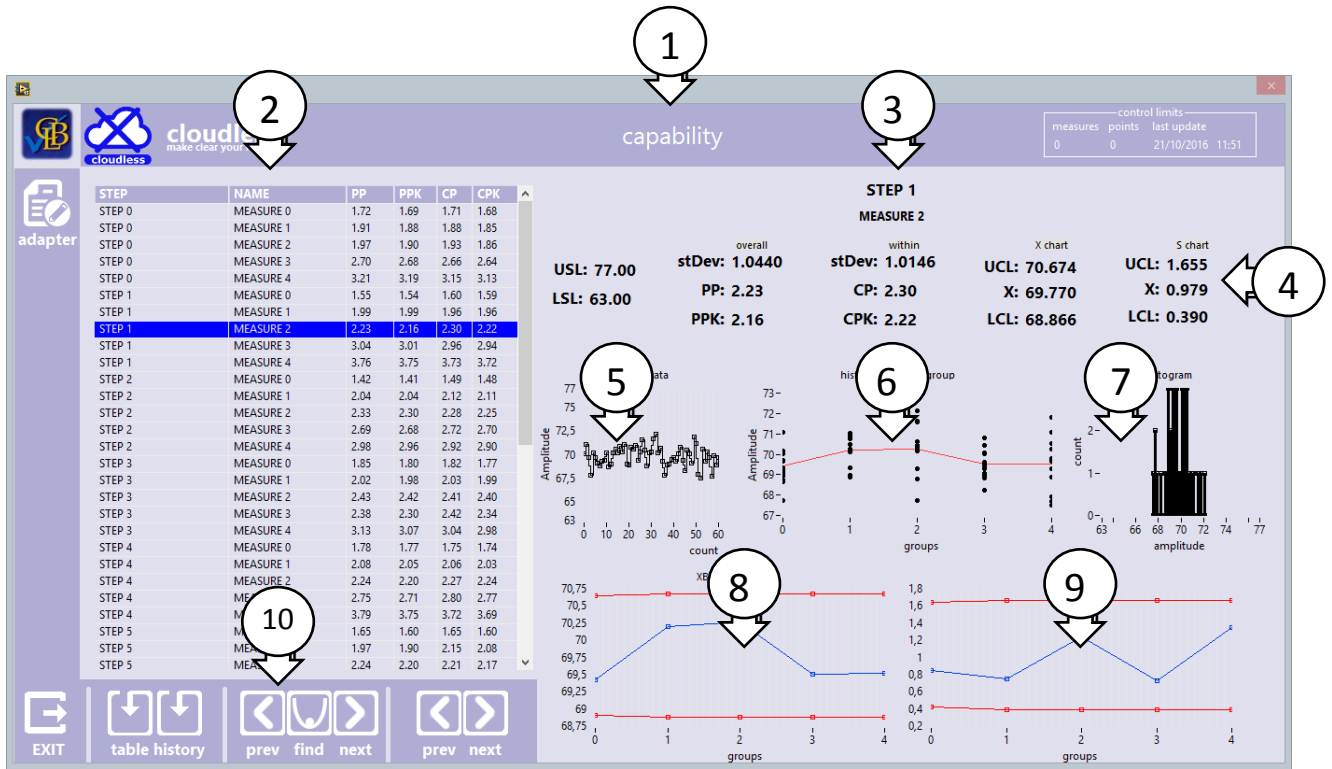

Figure 20: capability subpage
Select from the top-side bar the item **capability** (1): the subpage of Figure 20 will appear on the video.